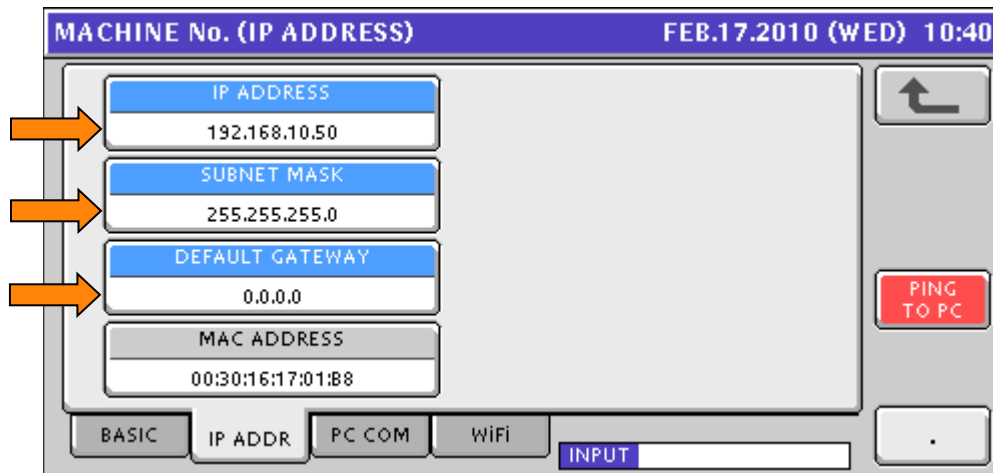

Figure 59. Enter IP Address, Subnet, and Gateway
- f. Enter and press the scale's **IP ADDRESS, SUBNET MASK, DEFAULT GATEWAY**. See Figure 59.